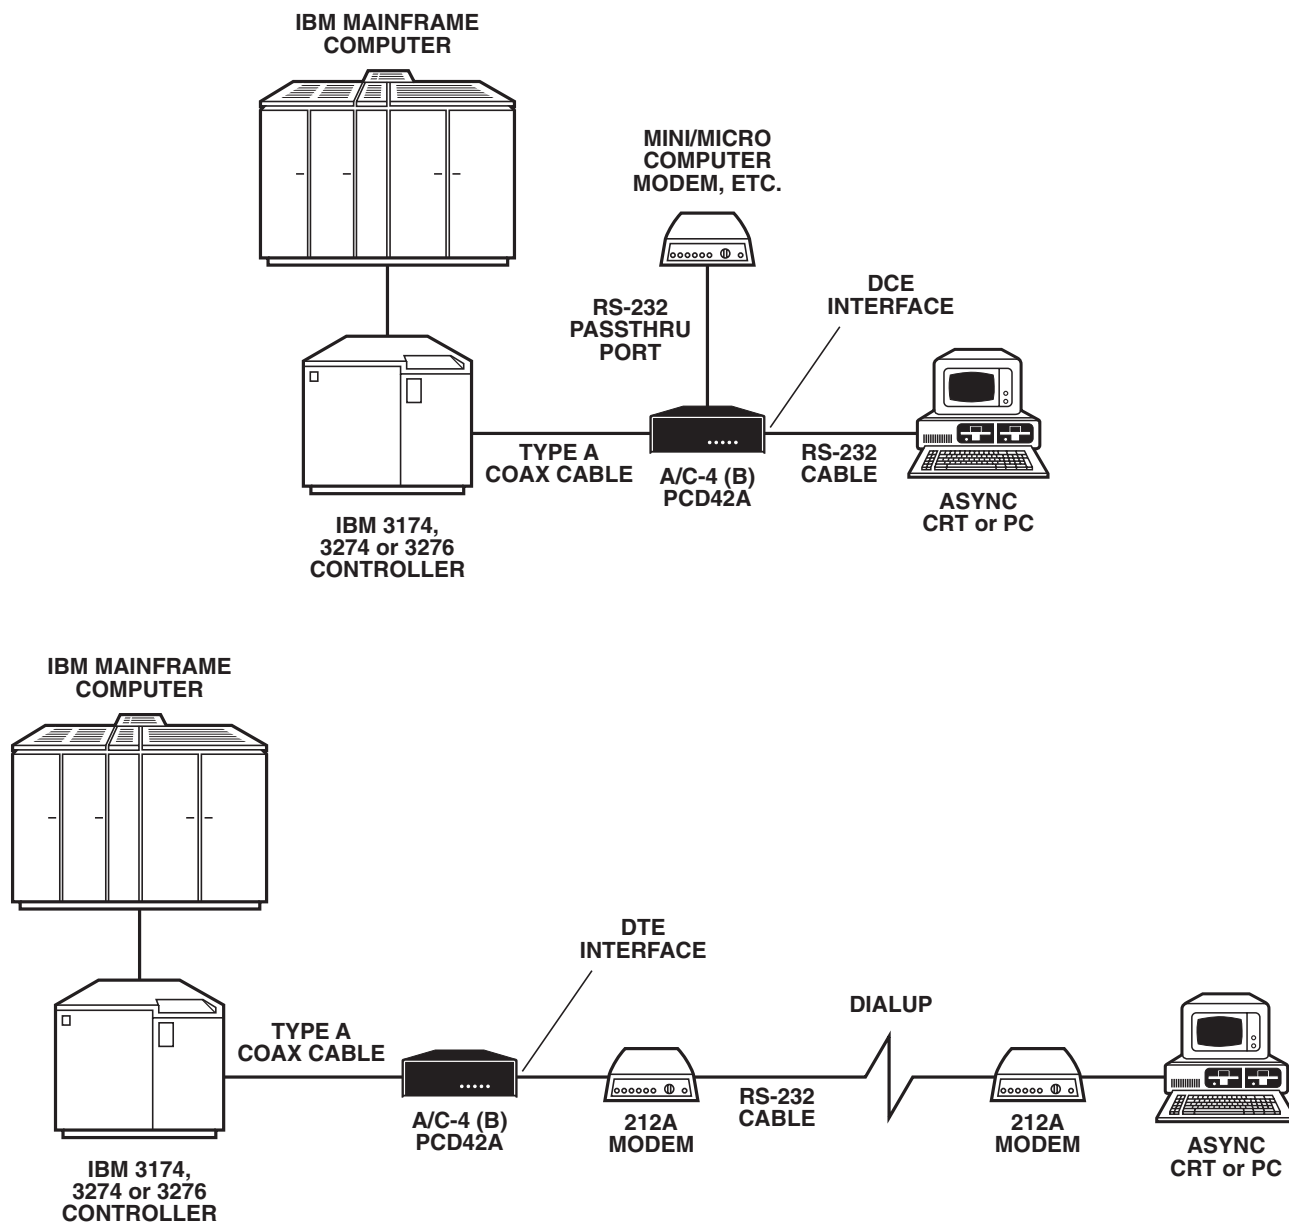

Figure 1-2. Standard and Deluxe Model Interconnections.
A DTE/DCE switch that allows the main RS-232 port to interface as data terminal equipment or data communications equipment. Use the DCE setting to connect directly to an async terminal (without a crossover cable). Use the DTE settings to connect through modems. Figure 1-2 shows two ways the A/C-4 (B) Standard and Deluxe models connect IBM host equipment to asynchronous devices.